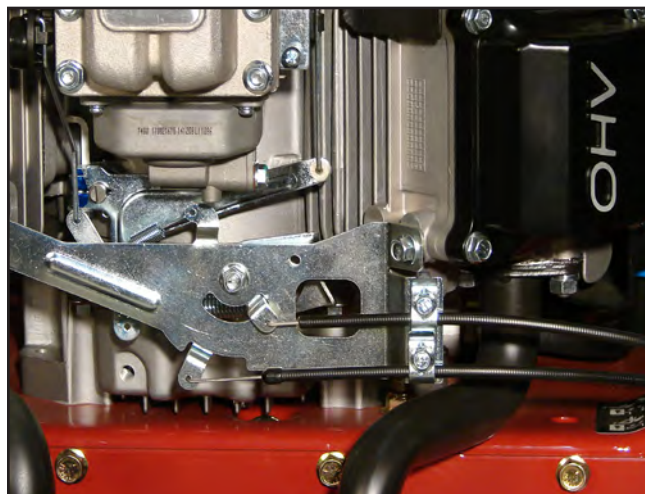

Figure 1
**Introduction:** The control plate transfers the operator’s choke and throttle settings to the carburetor (Figure 1).